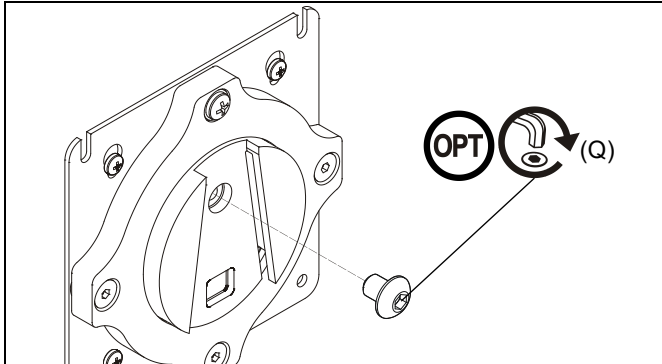

Figure 17
**NOTE:** (Optional) Rotational adjustment may be locked by installing rotational locking screw (Q) into back of faceplate. (See Figure 17)